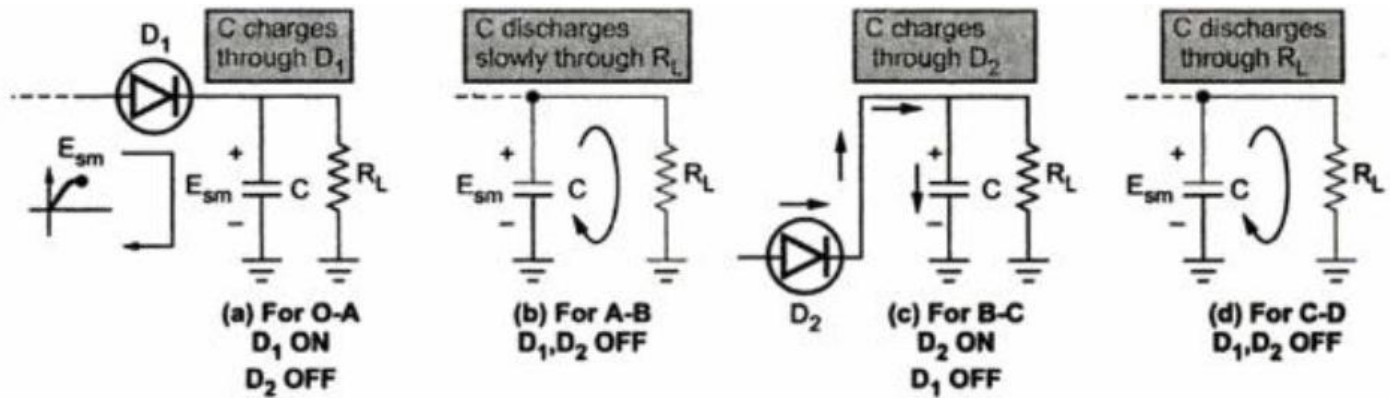

Fig. 1.41 Operation of Capacitor input filter with Full wave rectifier
- The diode currents are shown shaded in the Fig. 1.41.